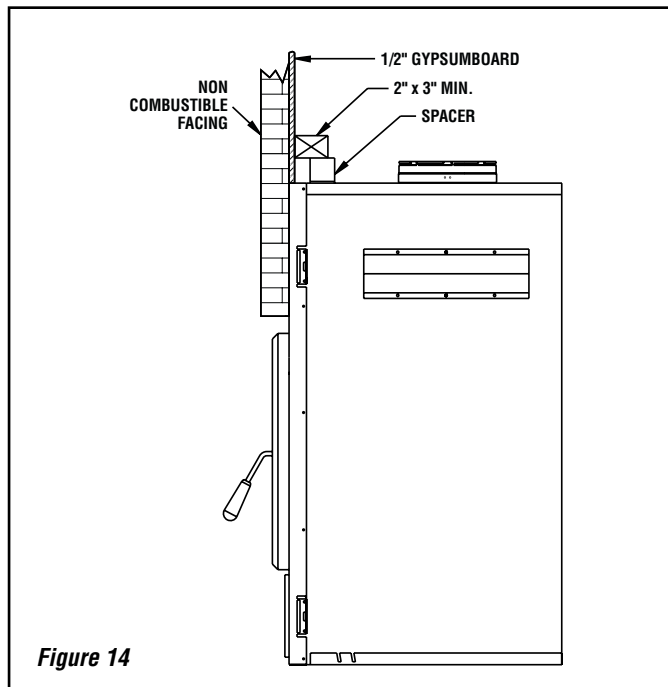

Figure 14
3. Non-combustible materials such as brick, stone or ceramic tile may project in front of and onto the fireplace facing (see **Figure 14**).
The fireplace facade can be covered with non-combustible material (as shown in **Figure 14** on **Page 12**).